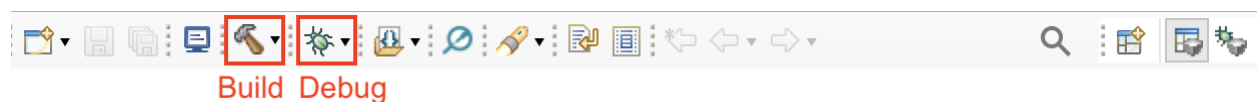

Figure 10: Build and Debug icons on the Quick Access panel.
- Build the project via the menu bar: **Project** → **Build Project**, or click on the Build button on the Quick Access panel below the menu bar (Figure 10). The project should build without errors.
- Make sure that the LaunchPad is connected to the computer with the provided USB cable. Debug the application using the menu bar: **Run** → **Debug**, or click on the Debug button on the Quick Access panel below the menu bar (Figure 10). This starts the debugger, which gains control of the target, erases the target memory, programs the target memory with the application, and resets the target.